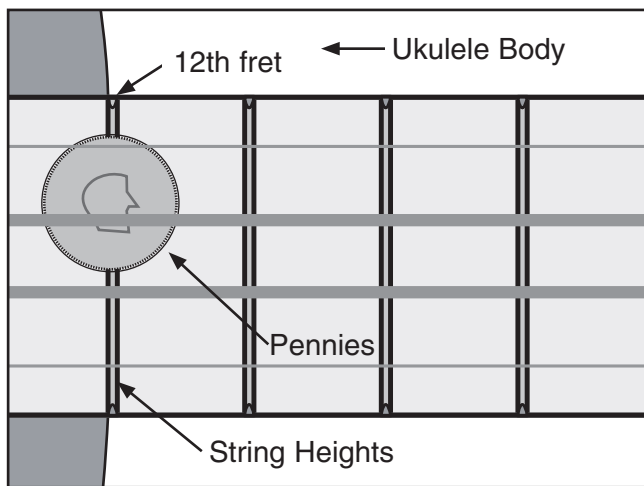

Figure 25. Correct 12th fret string heights.
- Using a stack of three pennies, measure the string heights at the 12th fret (see **Figure 25**).